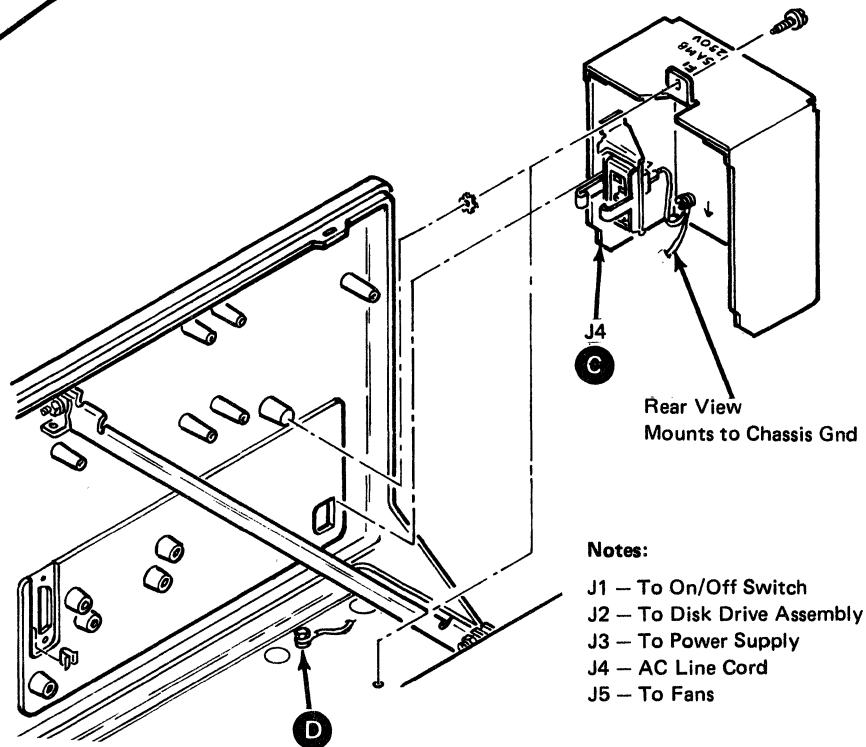

Figure 4-5. Prime Power Box
4.4 Prime Power Box, Removal and Replacement (Figure 4-5)